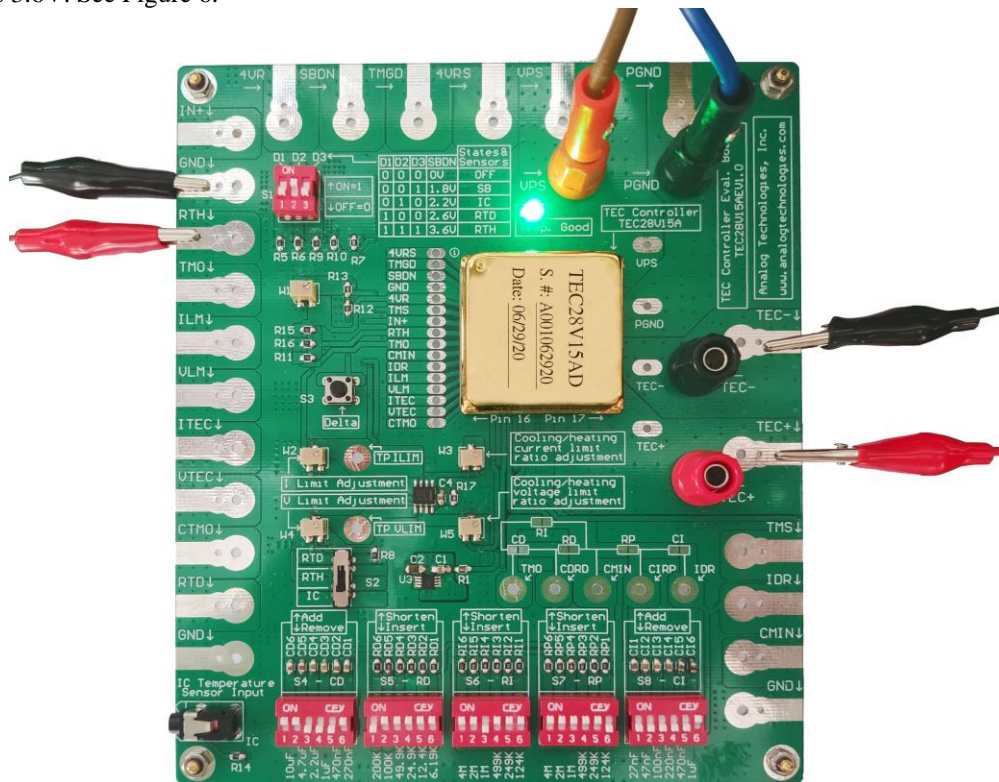

Figure 5. Switch Setting for RTH CW Mode
1. When using CW mode, turn the S2 switch to IC and then turn the S1 to IC. The SBDN voltage is 2.2V. See Figure 5.